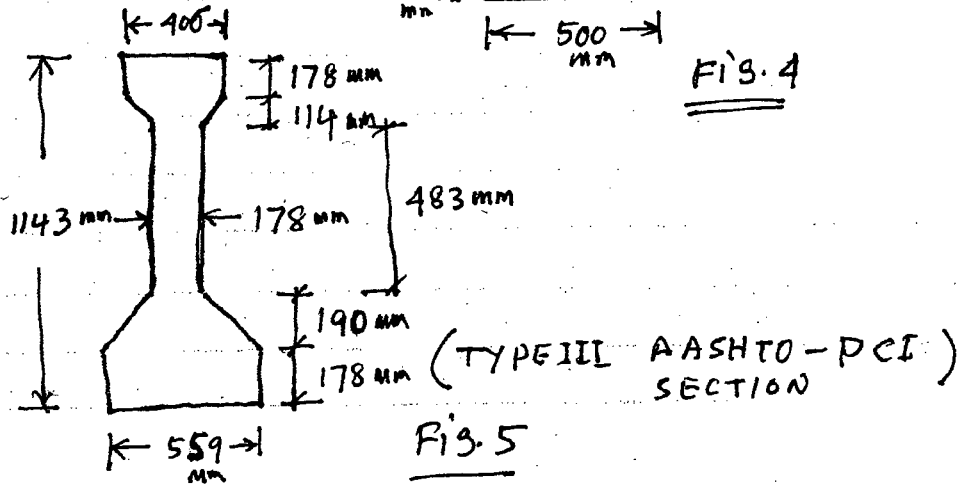

Fig. 5
4. Design a composite prestressed concrete structural system for a simply supported 25 m span. The beam will be Type III standard AASHTO-PCI section (Fig. 5) with 125 mm thick slab. Design loads for the structure are; dead load of the composite system (normal weight concrete).  $W_{cr}$ , additional load  $W_D = 1100$  Pa; live load,  $W_L = 2000$  Pa. Use  $f'_{ci} = 30$  MPa;  $f'_c = 35$  MPa; and for the slab,  $f'_c = 28$  MPa. Design for unshored beams in construction following the ACI code for the critical section at midspan. Assume total loss of prestress to be 22% for this section and the initial force for 12.7 mm diameter 7-wire strand is 128 kN. Assume appropriate value for any missing data. (23 1/3)